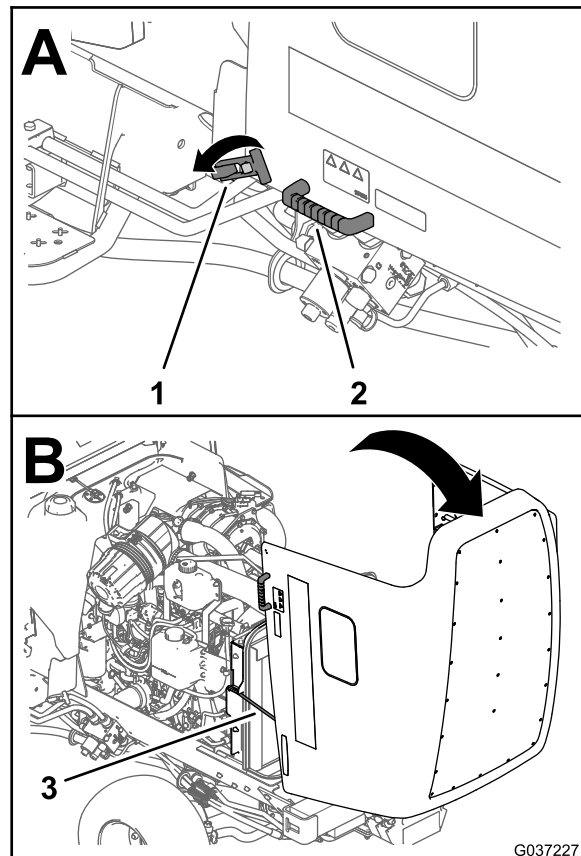

Figure 75
2. Release the 2 latches at the forward lower corners of the hood (Figure 75).
3. Using the handles that are adjacent to the latches, lift up and back the hood until the 2 prop rods are seated in the 2 rod brackets (Figure 75).